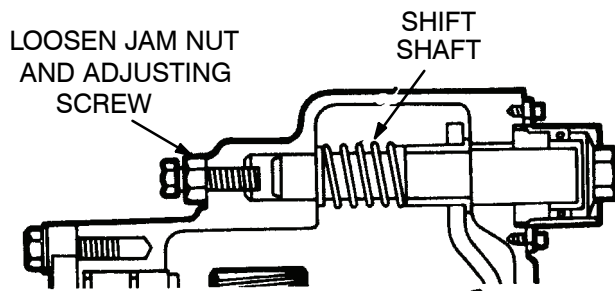

Figure 106.
- (15) Tighten the plug to 44–55 lb–ft (60–75 N·m) torque. Tighten the manual engaging capscrew to 15–25 lb–ft (20–34 N·m).
- (16) Install the gasket between the output shaft bearing cage and the axle housing.
- (17) Put the output shaft and bearing cage assembly in the axle housing. Rotate the output shaft to align the splines of the output shaft with the splines of the rear side gear.
- (18) Install the washers and the capscrews that fasten the output bearing cage to the axle housing. Tighten the capscrews to 35–50 lb–ft (47–68 N·m).
(19) Adjust the shift fork for the inter-axle differential lock according to the following procedure. The movement of the shift fork is controlled by the adjusting screw for the air-shift cylinder.
- (a) Loosen the jam nut on the adjusting screw. Loosen the adjusting screw so that the screw does not touch the shift shaft. Figure 106.